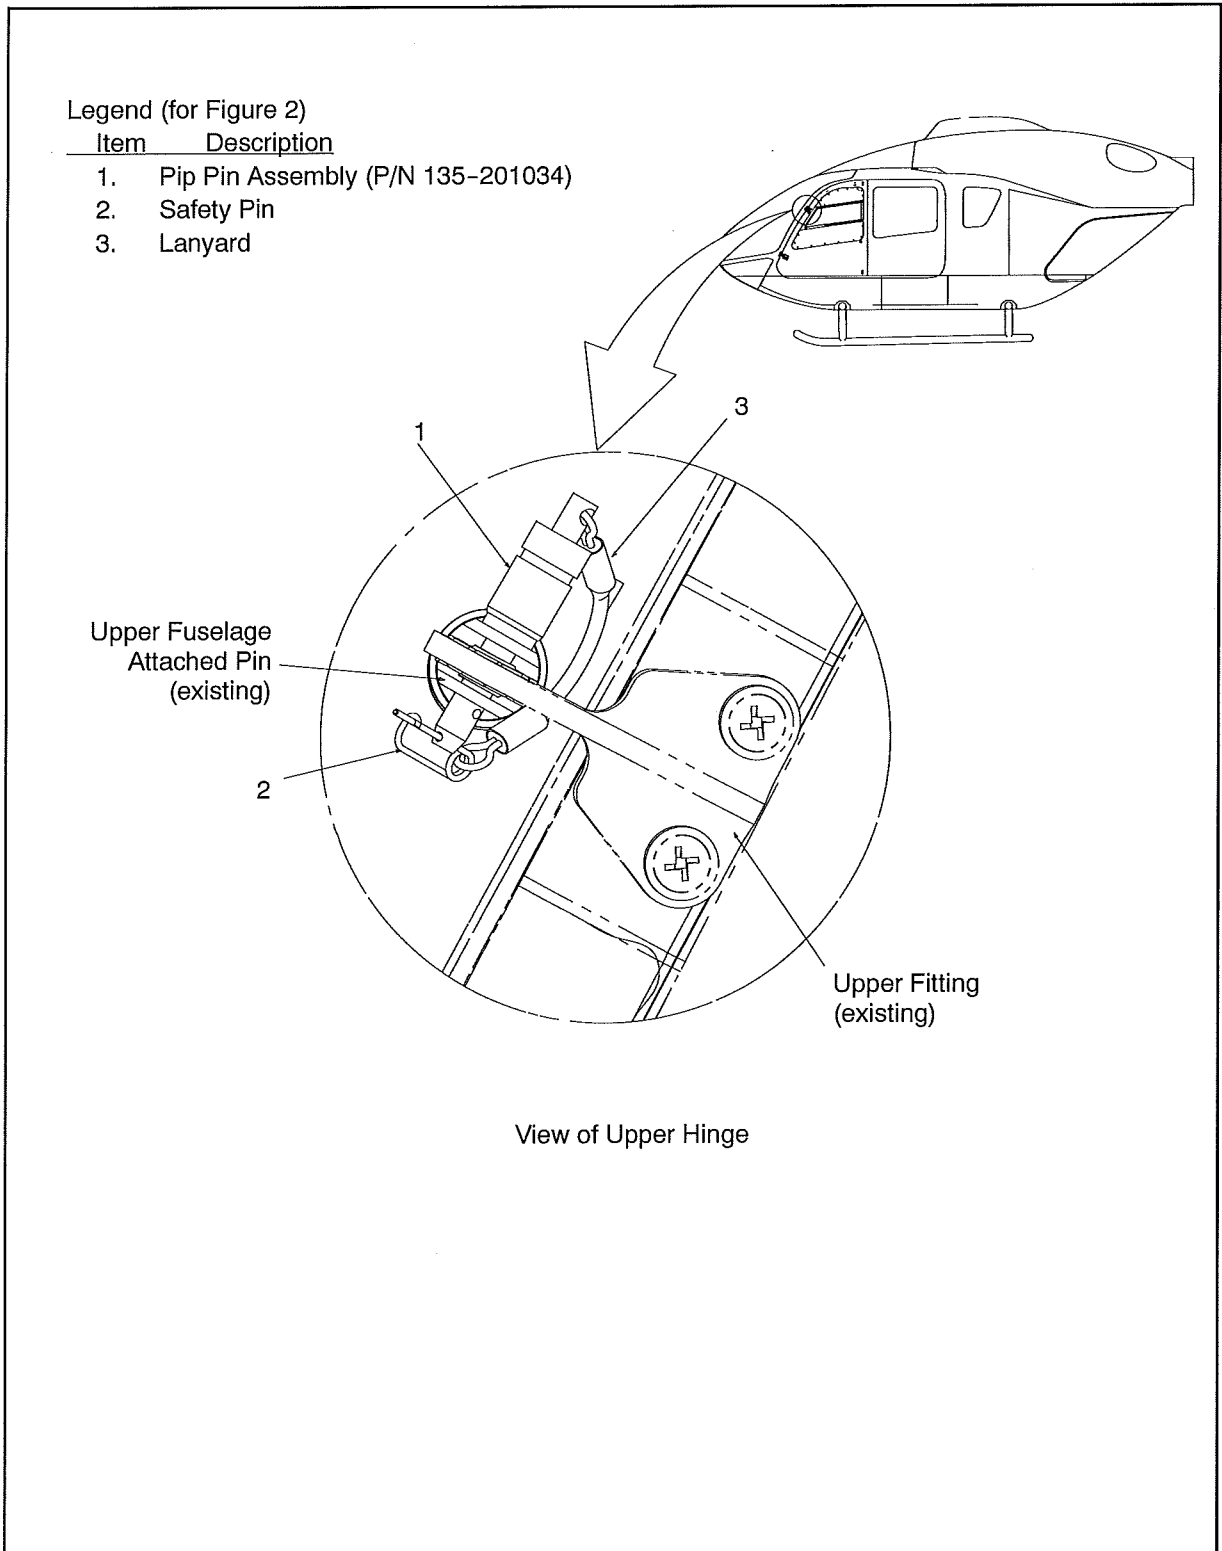

Figure 2 Detail of Upper Hinge
A. REMOVAL**1) UPPER AND LOWER REMOVABLE DOOR PINS (Refer to Figures 2 & 3)**
- b) Remove safety pins (2) from the bottom of the pip pin assemblies (1, 2 places). Depress top of each pip pin assembly (1) and remove.
B. REPLACEMENT**1) UPPER AND LOWER REMOVABLE DOOR PINS (Refer to Figures 2 & 3)**
- a) Position door, with spacer clip (4) attached over the lower door fitting hole.
- b) Insert both pip pin assemblies (1) and secure using safety pins (2).